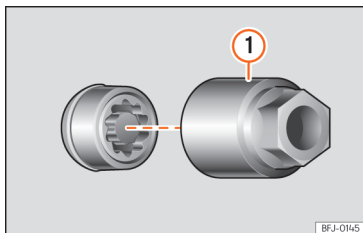

Fig. 187 Anti-theft wheel bolt with cap and adapter.
- Insert the special adapter »» Fig. 187 ① (vehicle tools »» page 243) onto the anti-theft wheel bolt and push it on as far as it will go.